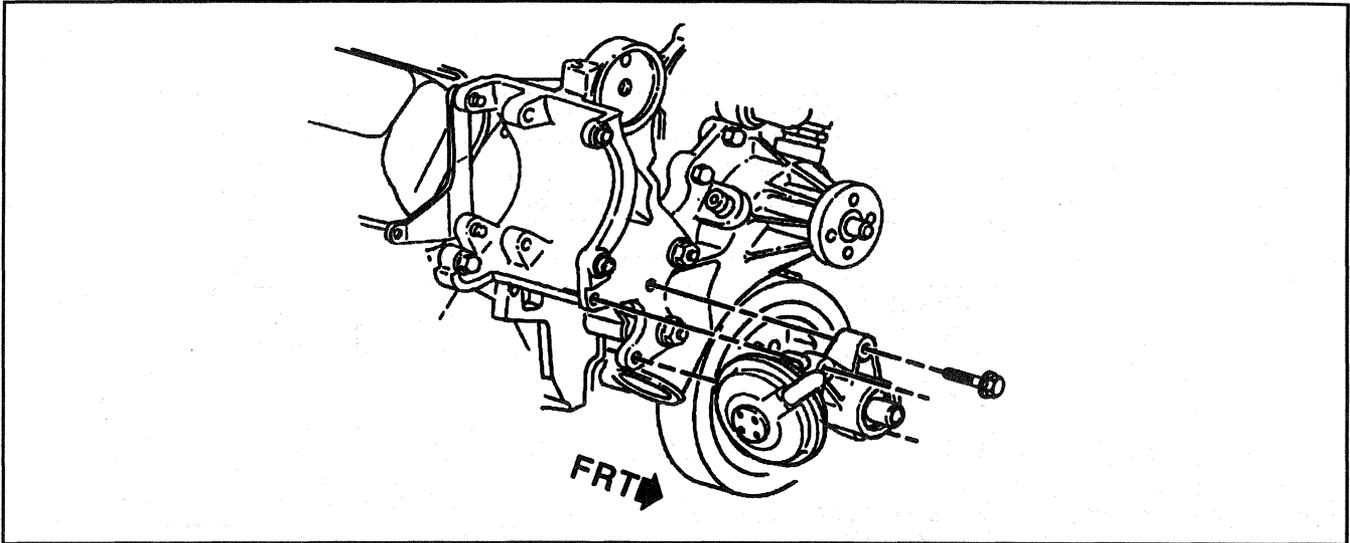

Figure 3—Vacuum Pump Mounting
↔ Remove or Disconnect (Figures 3 through 5)
Install or Connect (Figures 3 and 4)
1. Vacuum pump to the bracket with bolts (Figure 3).